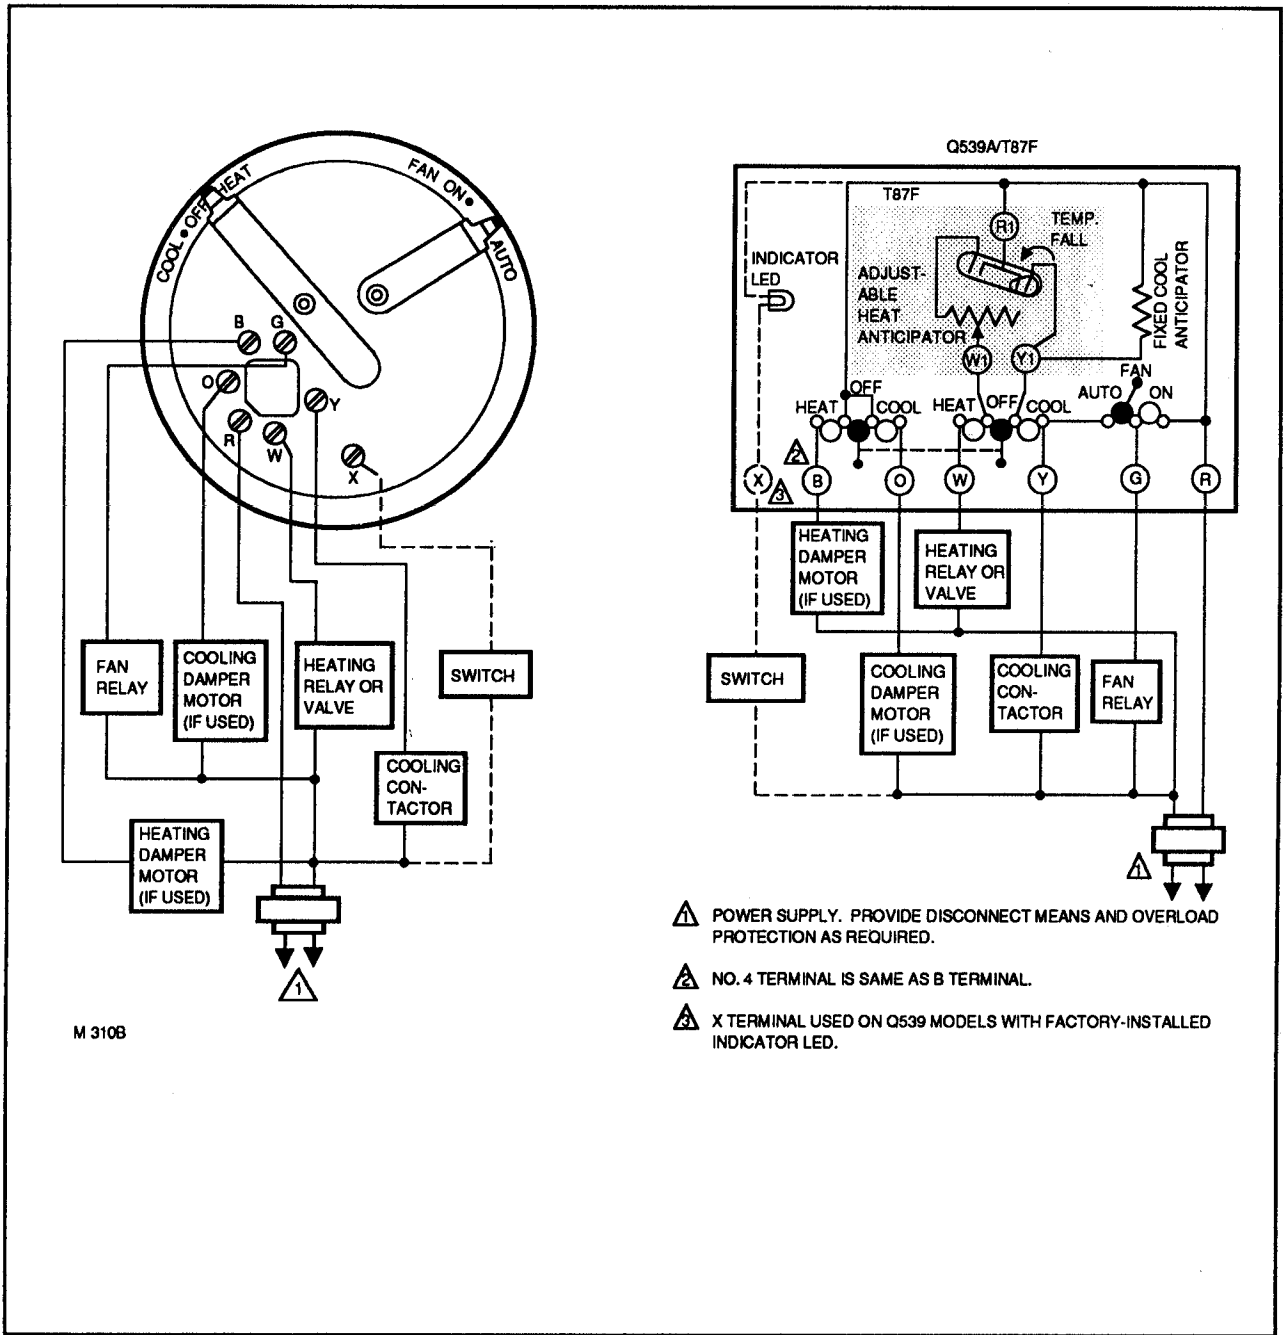

FIG. 1—Q539A,B,C IN HEATING-COOLING APPLICATION USING COMMON POWER SUPPLY.
- Connect the wires to the terminals inside the subbase. Refer to equipment manufacturer's instructions for Q539 wiring diagrams. If not available, refer to Figs. 1 through 12.